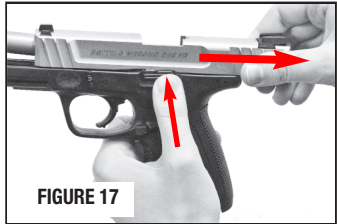

FIGURE 17
- Lock the slide in the open position by allowing the slide to move slightly forward from the rearmost position while pressing upward on the slide stop (FIGURE 17).